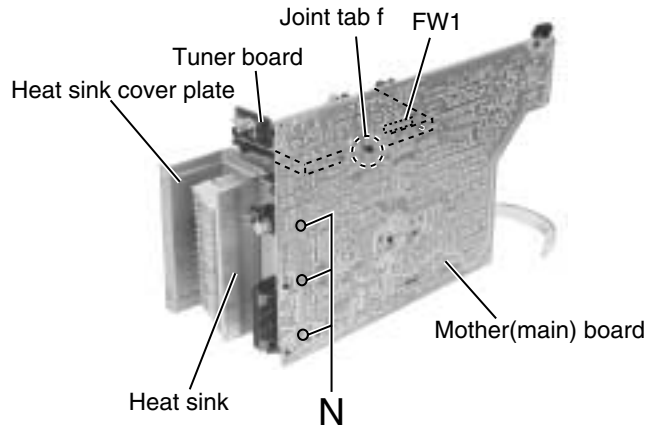

Fig.18
(See Fig. 18 to 20)
1. Release the joint tab f of the tuner board holder and the mother(main) board, and disconnect connector FW1 connected to the mother(main) board. Remove the tuner board assembly (Refer to Fig.18).